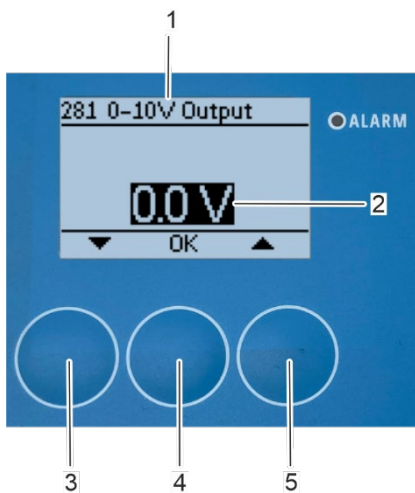

Fig. 143: Set voltage output signal to 0 V
⇒ The “281 0-10V Output” submenu (Fig. 143/1) appears on the display.
6. Reset the voltage signal to 0 V (Fig. 143/2) with the arrow keys [up] (Fig. 143/5) and [down] (Fig. 143/3).
7. Confirm the setting with [OK] (Fig. 143/4).